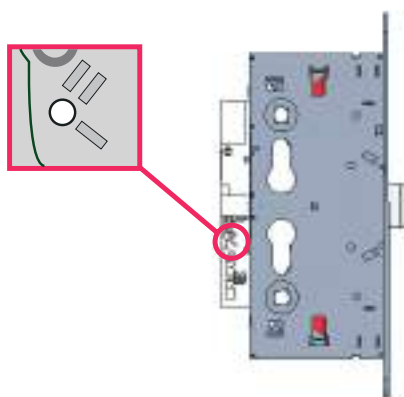

Figure 2: timer hole
- insert a 2 mm flathead screwdriver in the hole shown in figure 2;